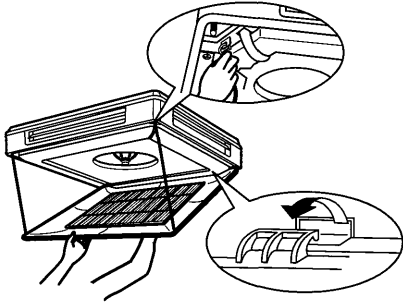

Fig. 4
Refer to figure 4 on page [1]
- 2 With the suction grille in the open position, remove the suction grille by pushing it up as shown. (Refer to Fig. 4)